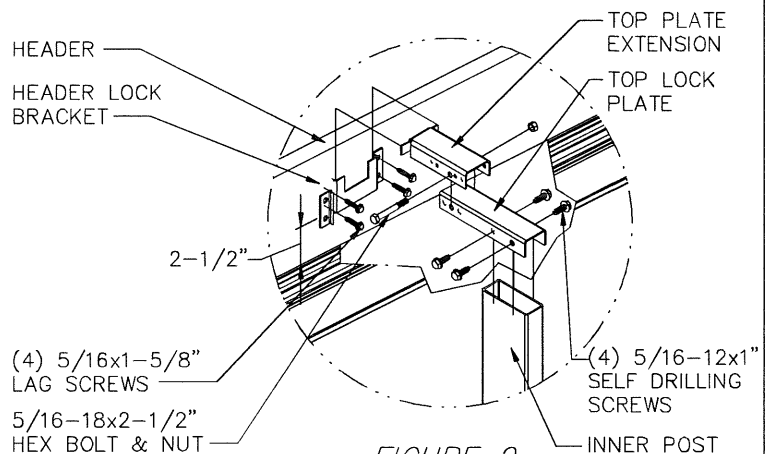

FIGURE 2
5120/5145/9100/9405/9600/9605 OR THE MIDDLE HOLE AS SHOWN IN FIGURE 2. ALIGN THE ASSEMBLY OVER THE TOP OF THE INNER POST AND SECURE WITH (4) 5/16-12x1" SELF DRILLING SCREWS THROUGH THE HOLES PROVIDED IN THE TOP LOCK PLATE. SLIDE THE OPPOSITE END OF THE INNER POST INTO ONE END OF THE OUTER POST.